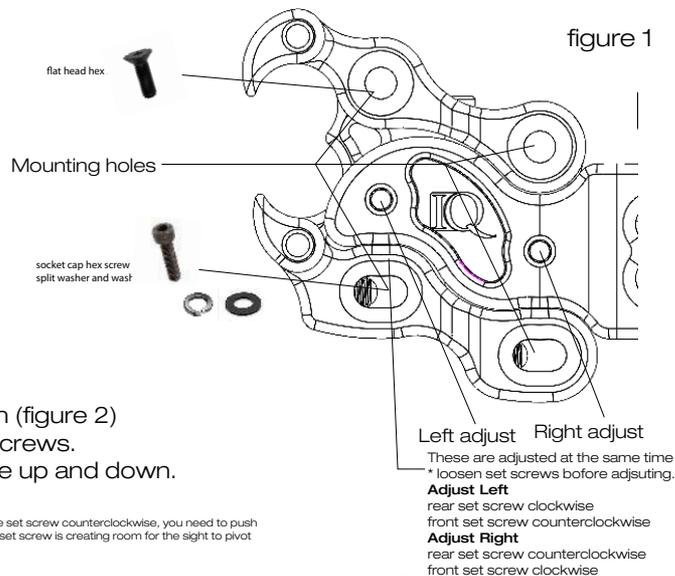

figure 2
9. Once the RED laser is directly in-line vertically with the pins, adjust the elevation (figure 2)